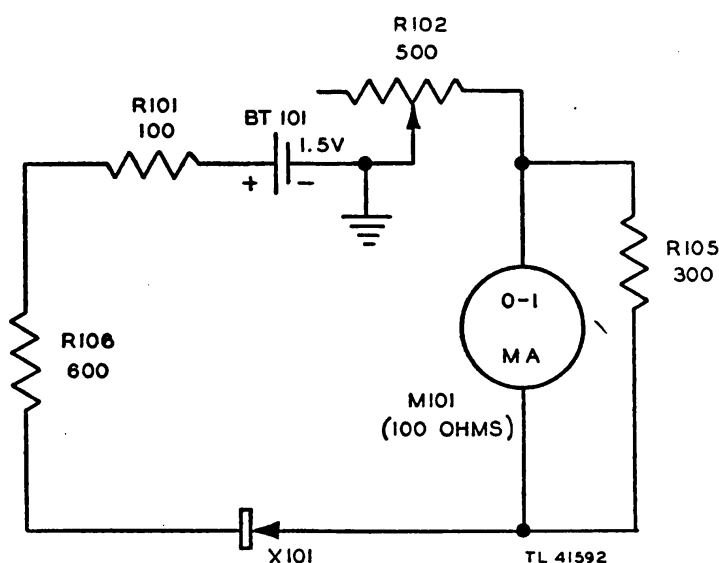

Figure 8. Circuit for backward resistance measurements, simplified schematic diagram.
(4) *BKWD RES Position* (fig. 8). With the selector switch in this position, the same connections are made as in subparagraph (3) above except that the connections to the crystal rectifier are reversed. The subsequent reading obtained on the meter then represents the backward resistance of the crystal rectifier.